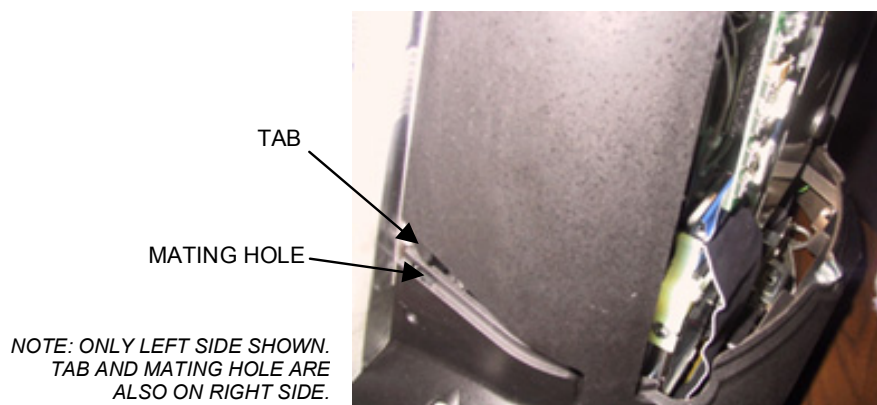

FIGURE 43 - SIDE VIEW OF GAME
25. Reconnect the ground wire to the rear cover and lower the cover into place, carefully lining up the 2 tabs on the cover with the 2 mating holes on the sides of the game (see Figure 43). Make sure that the plastic lip on the bottom of the rear cover is behind the metal base. Tighten the screw securing the bottom of the door. (Figure 35). Turn the wing on the draw latch clockwise to engage it (see Figure 34).